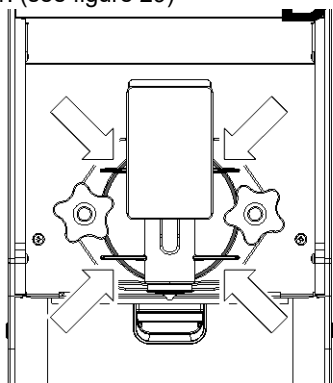

figure 29
- 1 **Once a day:** check the dispenser and make sure there are not product leaks from the tap assembly seal. If you notice a leak, check first and foremost that the components have been assembled correctly, then make sure the seal is not worn or faulty, in which case replace it with an original spare part from the manufacturer. (see figure 29)